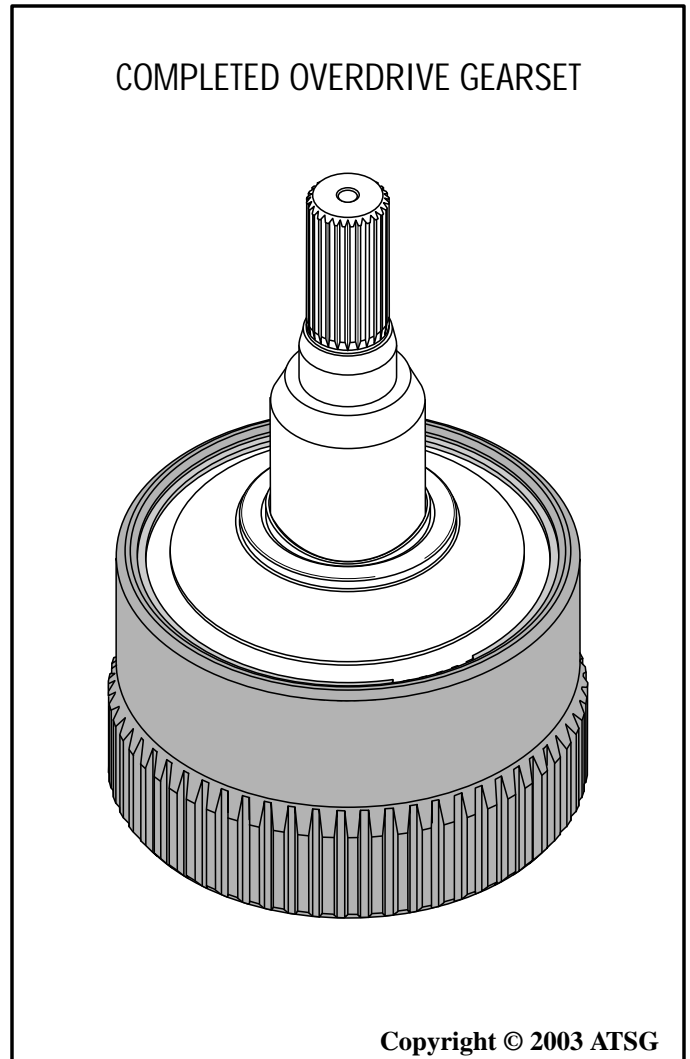

Figure 147
14. Set the completed overdrive gearset aside for additional sub-assembly after the coast clutch housing is built (See Figure 147).